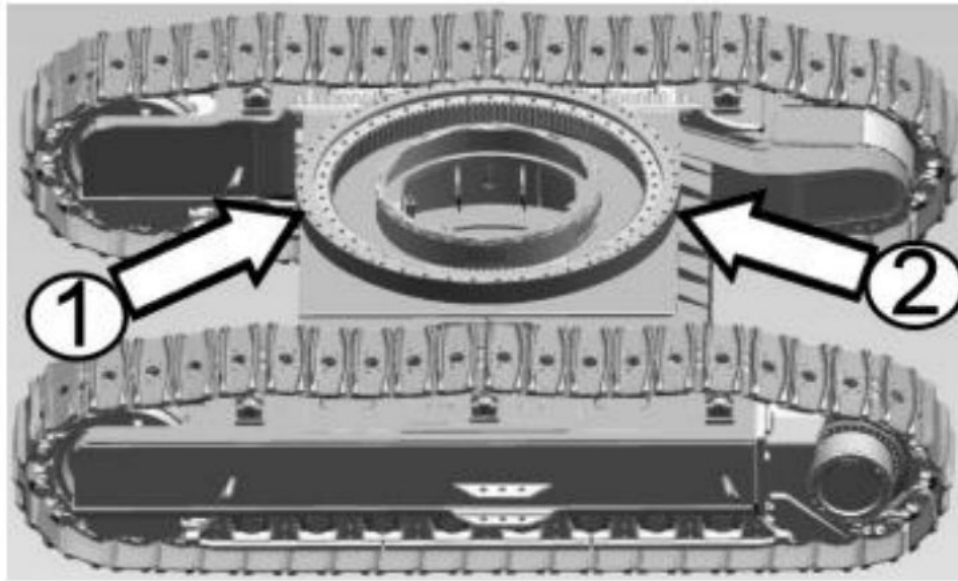

Fig.4: top view of location of the dial gauge
18. Position the Sensor and GP. on the slew ring in location 1 (fig. 4)
22. Position the Sensor and GP. on the slew ring in location 2 (fig.4).